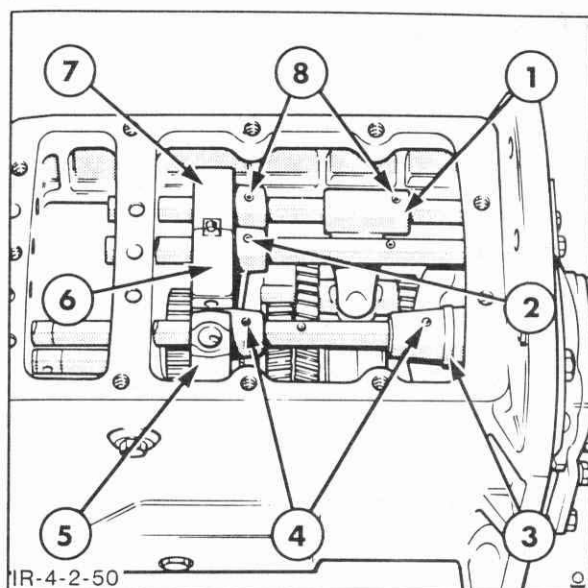

Figure 4-143
4. Using a suitable pin punch, remove the spring pins retaining the 1st/2nd gearshift gate and the gearshift selector arm, Figure 4-143.
6. Using a suitable pin punch, remove the spring pins retaining the 3rd/4th gearshift gate and gearshift fork, Figure 4-143.
8. Using a suitable pin punch remove the spring pins retaining the H-L gearshift gate and gearshift fork, Figure 4-143.